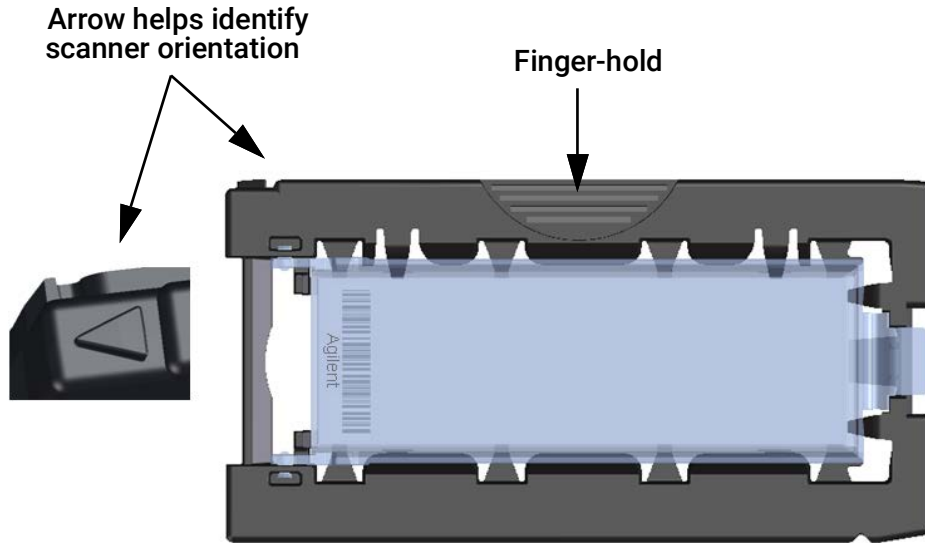
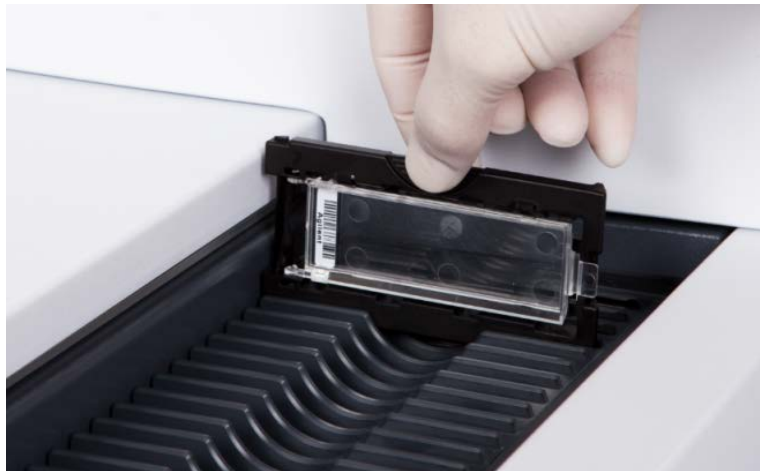

Figure 22 Slide holder helps you to insert slides correctly
Figure 23 Inserting slide holder into cassette
- 1 Put assembled slide holders into the scanner cassette. Refer to Figure 22 and Figure 23.